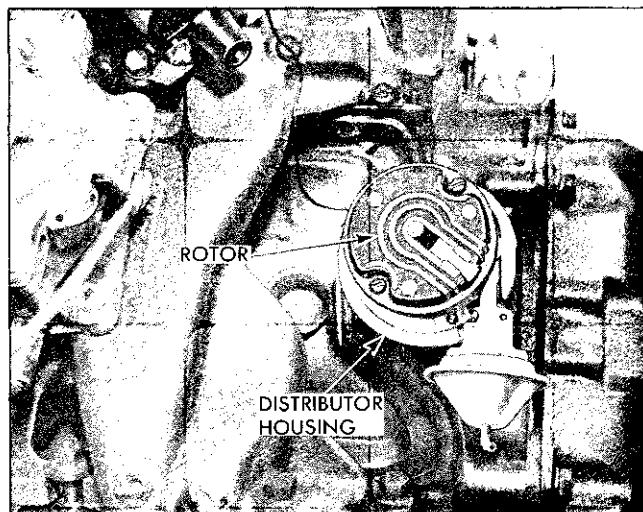

Fig. 6E-27 Rotor in No. 1 Firing Position - V-8
1. Check to see that engine is at firing position for No. 1 cylinder (No. 1 piston at top of compression stroke) and timing mark on harmonic balancer is indexed with the proper mark on the timing chain cover (Fig. 6E-30).
3. Install distributor in block so that vacuum diaphragm faces left side of engine and rotor points toward contact in cap for No. 1 cylinder. Before installing distributor, index rotor with housing as noted when distributor was removed. This will simplify indexing distributor shaft and gear with oil pump drive shaft and drive gear on camshaft. Distributor and rotor will be positioned as shown in Fig. 6E-27 when properly installed with No. 1 piston in firing position.